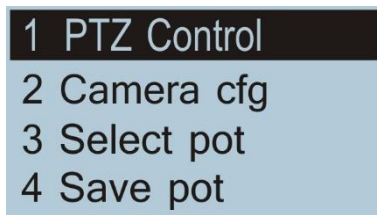
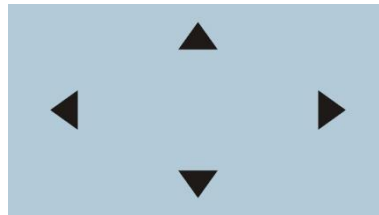

Figure 7.12
Figure 7.13
3. Enter the PTZ control interface according to Figure 7.12, and set the camera lens moving direction. Press the left button for turning left and right button for turning right, and rotate the button to the left for up and to the right for down, as shown in Figure 7.13.